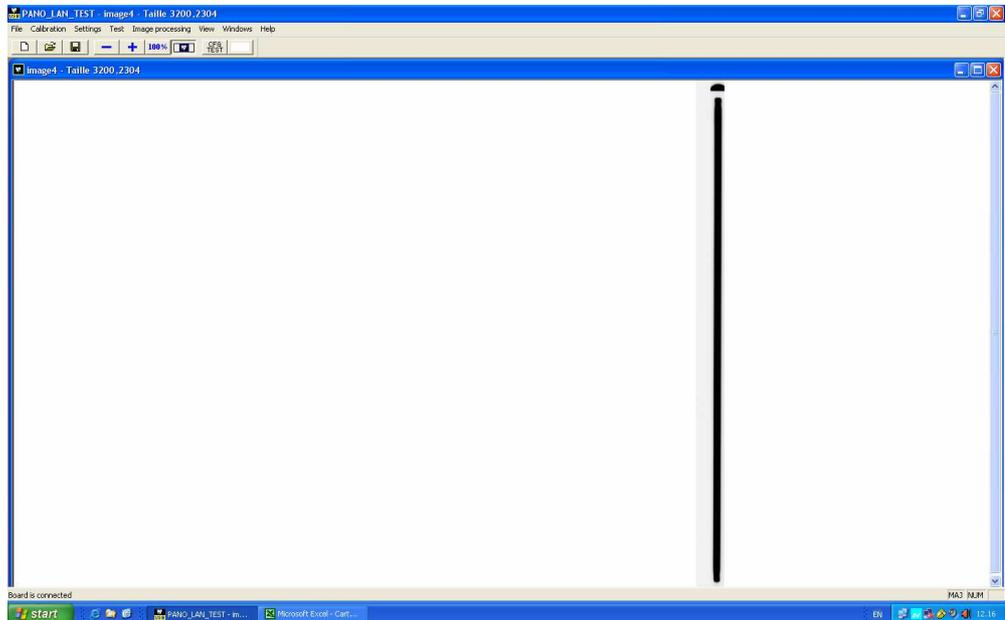
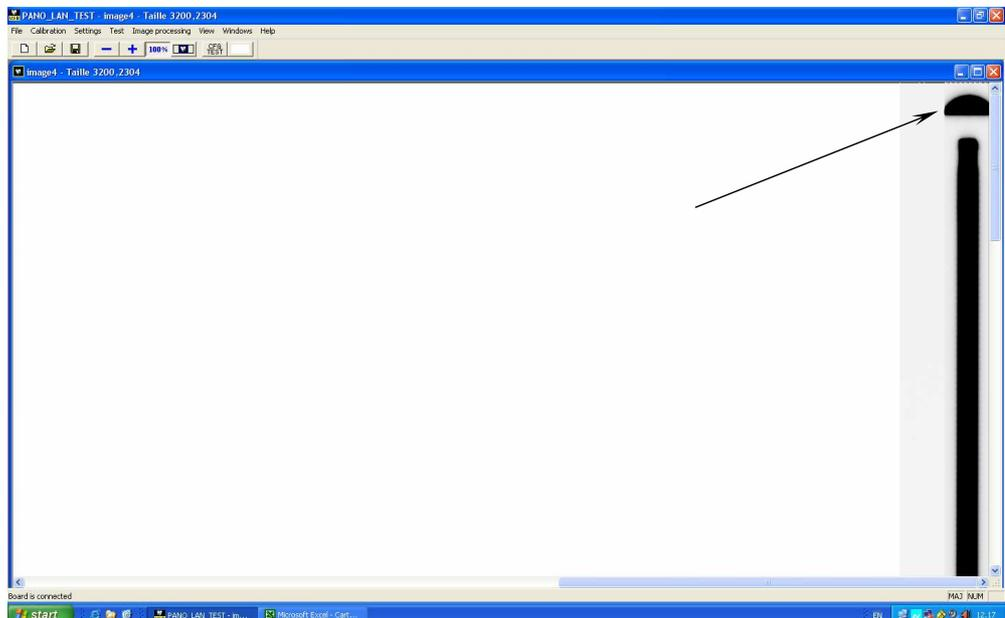

Figure 9-28
Figure 9-29
- 38.** Take X-ray pressing the X-ray button and check if in the obtained narrow image the projection of the slit of the centering tool is vertical and centered with the arc (Figure 9-28 and Figure 9-29).